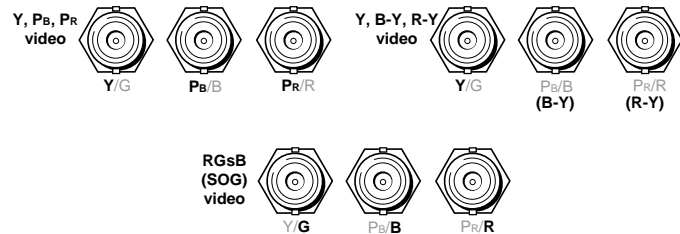

Figure 4 — Input connections
- Input connectors** — Connect a component video input device (HDTV, W-VHS [Y, PR, PB], SMPTE [Y, R-Y, B-Y]), Betacam® [Y, R-Y, B-Y]) or an RGsB input device to these female BNC connectors. Use high-resolution cable, such as Extron's BNC-4 mini HR, RG59/HR, or RG6/SHR cable. Connect the input device as shown in figure 4.